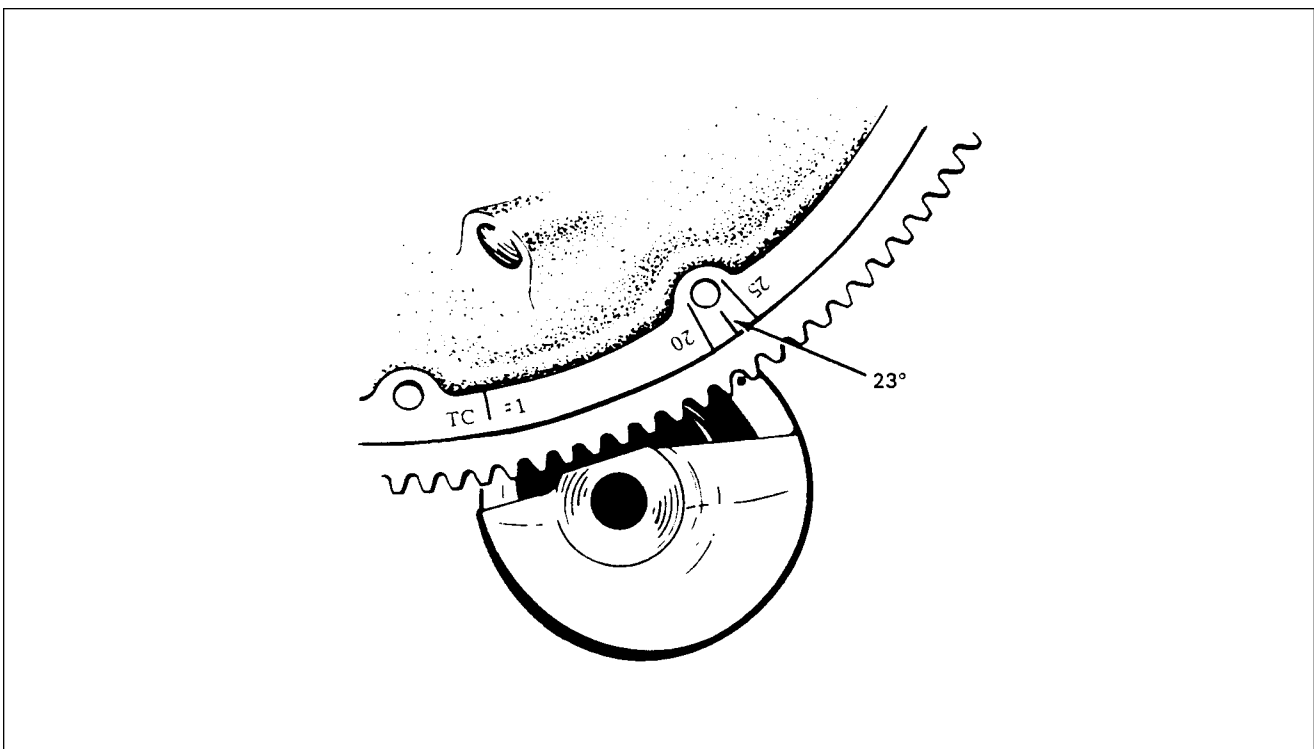

Figure 74-3. Engine Timing Marks
5. Continue turning crankshaft until 23° advance timing mark is in alignment with small hole on top face of starter housing at two o'clock position. (Refer to figure 74-3.)